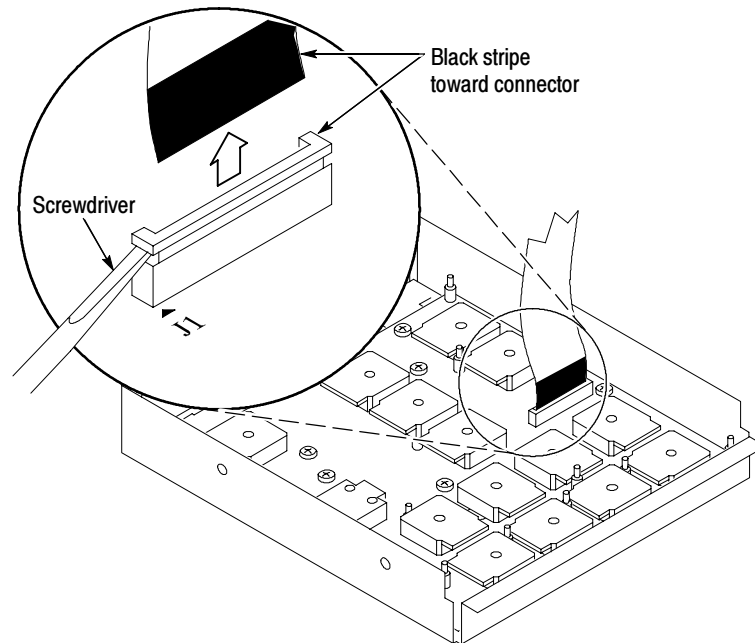

Figure 4: J1 flex cable connector removal
- c. Use the $\frac{1}{8}$ inch flat-bladed screwdriver to carefully lift the J1 cable connector lock up to disconnect the J1 flex cable from the display module assembly. See Figure 4, page 9. Note the connector's pin 1 index mark and the black stripe on the cable for later reassembly.